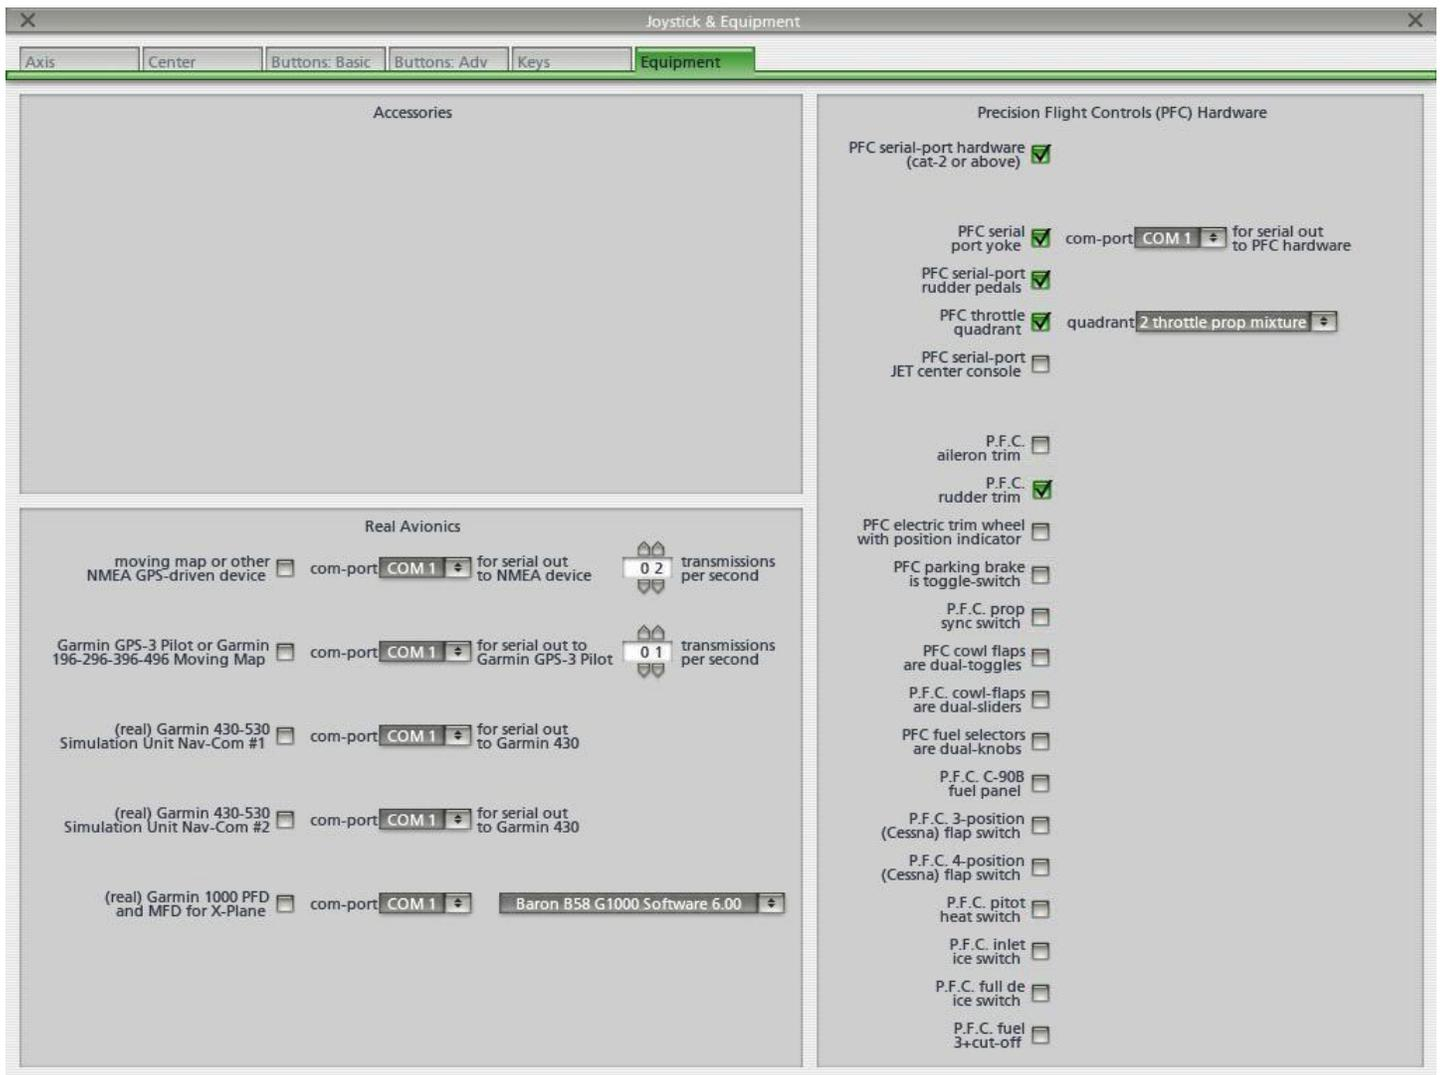

Figure 1.1
11. Enable the check boxes as shown in **Figure 1.1**